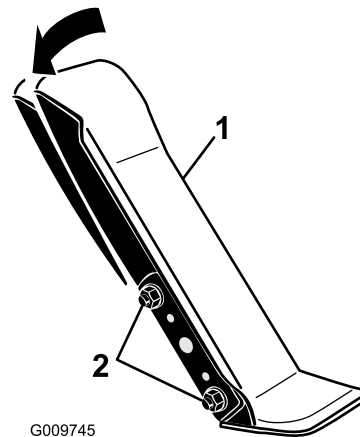

Figure 114
1. Loosen the 2 nuts and bolts securing the left side of the traction pedal to the bracket (Figure 114).
2. Pivot the pedal to the desired operating angle and tighten the nuts (Figure 114).